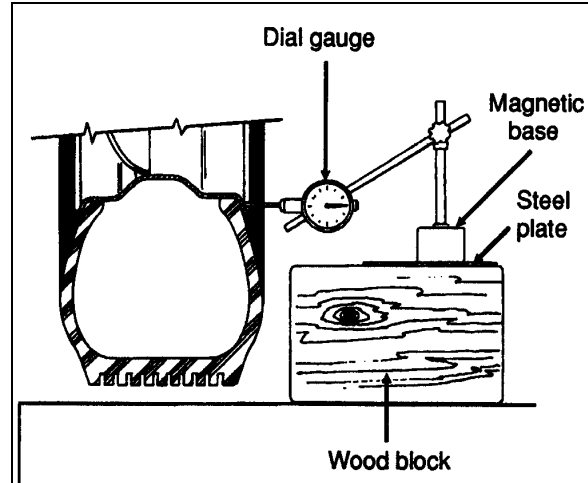

FIGURE 3: DIAL GAUGE INSTALLATION
2. Check wheel lateral run-out. Install a dial gauge as shown in figure 3, then rotate the